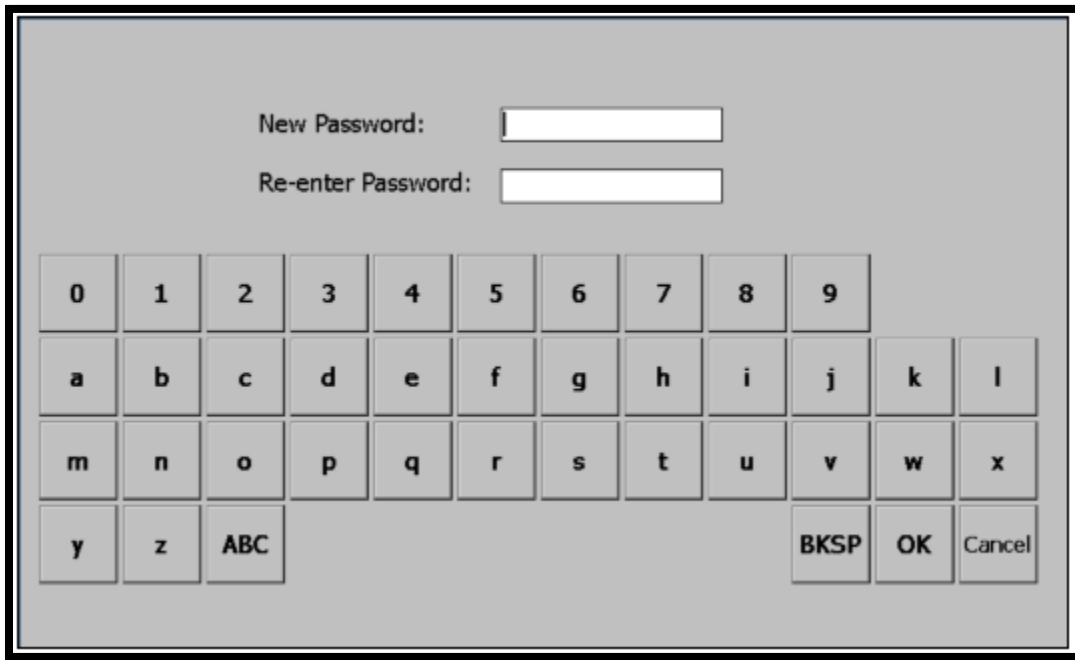

Figure 9. Set or Change Password
- Tap the **Set Password** button to open the soft keyboard shown in Figure 9. Passwords can be any length, and any combination of uppercase and lowercase letters, and numbers.